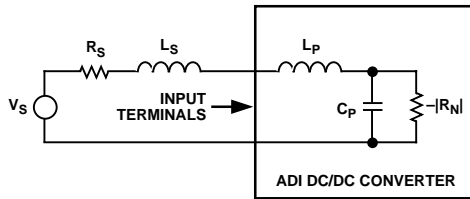

Figure 25. Model of Power Source and POL Converter Connection
**Potential System Instability:** The preceding analysis assumes dc voltages and currents. For ac waveforms the incremental input model for the POL converter must also include the effects of its input filter and control loop dynamics. When the POL converter is connected to a power source, modeled as a voltage source,  $V_S$ , in series with an inductor,  $L_S$ , and some positive resistor,  $R_S$ , the network of Figure 25 results.
The network shown in Figure 25 is second order and has the following characteristic equation: